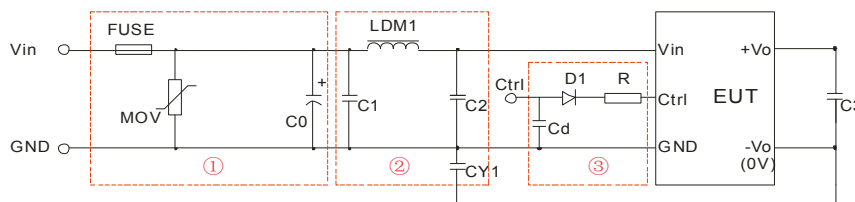

Fig. 3
RE	CISPR22/EN55022 CLASS B (see Fig. 3-② for recommended circuit)
EFT	IEC/EN61000-4-4 $\pm 2\text{KV}$ (see Fig. 3-① for recommended circuit) perf. Criteria B
Surge	IEC/EN61000-4-5 $\pm 2\text{KV}$ (see Fig. 3-① for recommended circuit) perf. Criteria B
① Part ① in Fig. 3 is used for EMS test while part ② is used for EMI filtering; and parts ① and ② may be selected based on needs.
②  $V_C$  is the voltage of the Ctrl end relative to the GND of the input grounding;  $V_D$  is the positive-going conduction pressure drop of D1;  $I_C$  is the current flows into the Ctrl end and its value is generally 5-10mA, see Fig. 3-③ for the peripheral circuit of Ctrl end;
③ If there is no recommended parameters, no external component is required.